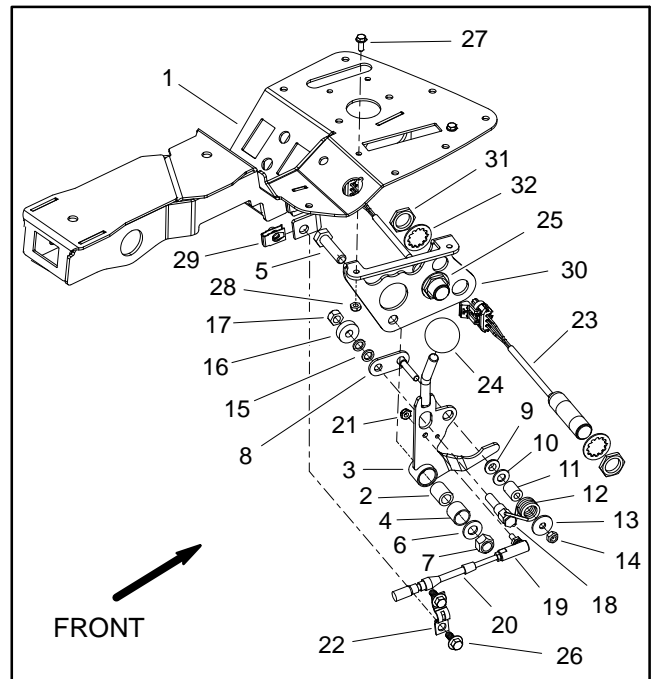

Figure 14
4. Disassemble functional control lever assembly as needed using Figure 14 as a guide.
1. If functional control lever assembly was disassembled, assemble control lever using Figure 14 as a guide.